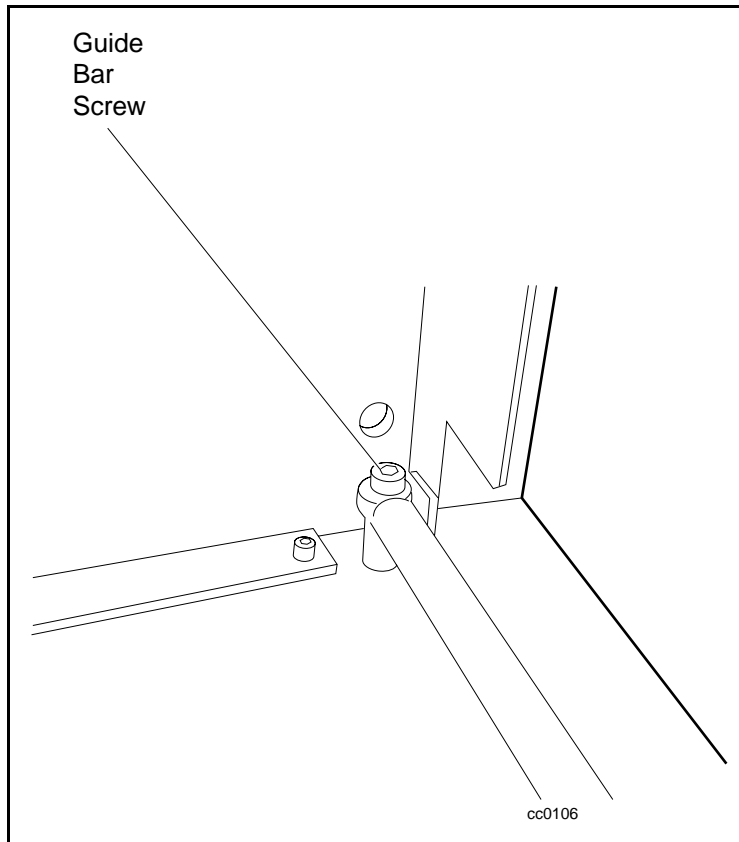
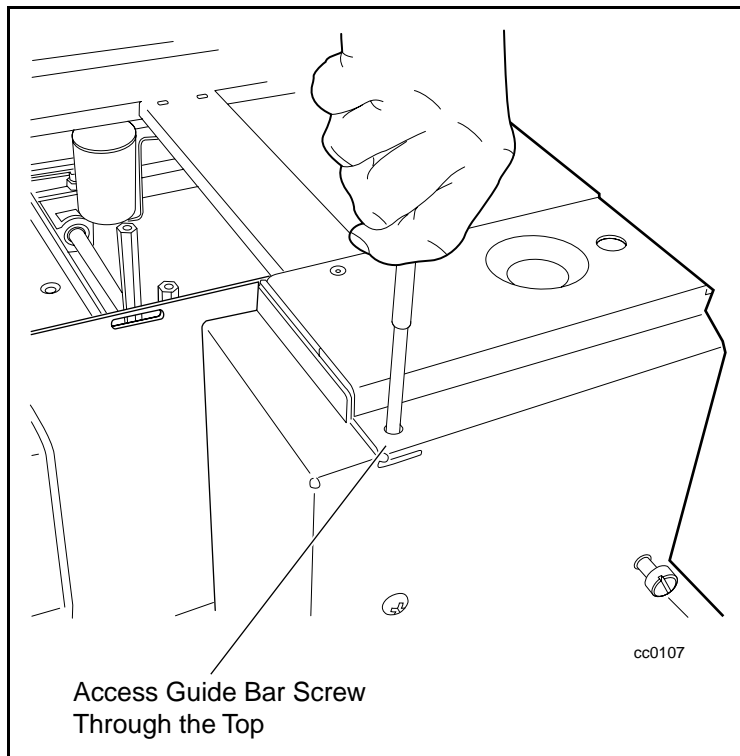

Figure 5-36. Removing the guide bar screw
Figure 5-37. Accessing the guide bar screw
8. Remove the screw that holds down the guide bar, using a 3 mm Allen wrench (see Figure 5-36 and Figure 5-37).
2. Tighten the screw that holds down the guide bar (see Figure 5-36 and Figure 5-37).